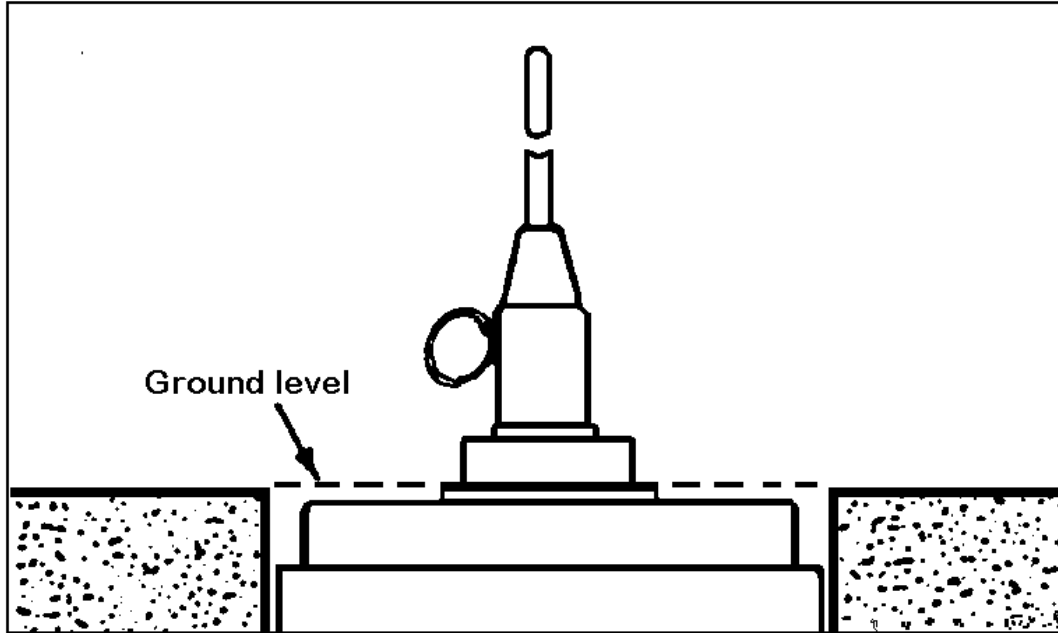

Figure 051-192-1117-4
- a. Dig a hole deep enough so the top of the mine will be at ground level (Figure 051-192-1117-4).